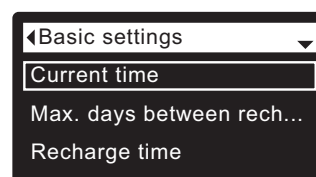

FIG. 35
3. Press the SELECT (O) button to display the Basic settings menu (See Figure 35).
7. Press the SELECT (O) button. The display will go back to the Basic settings menu (Figure 35).